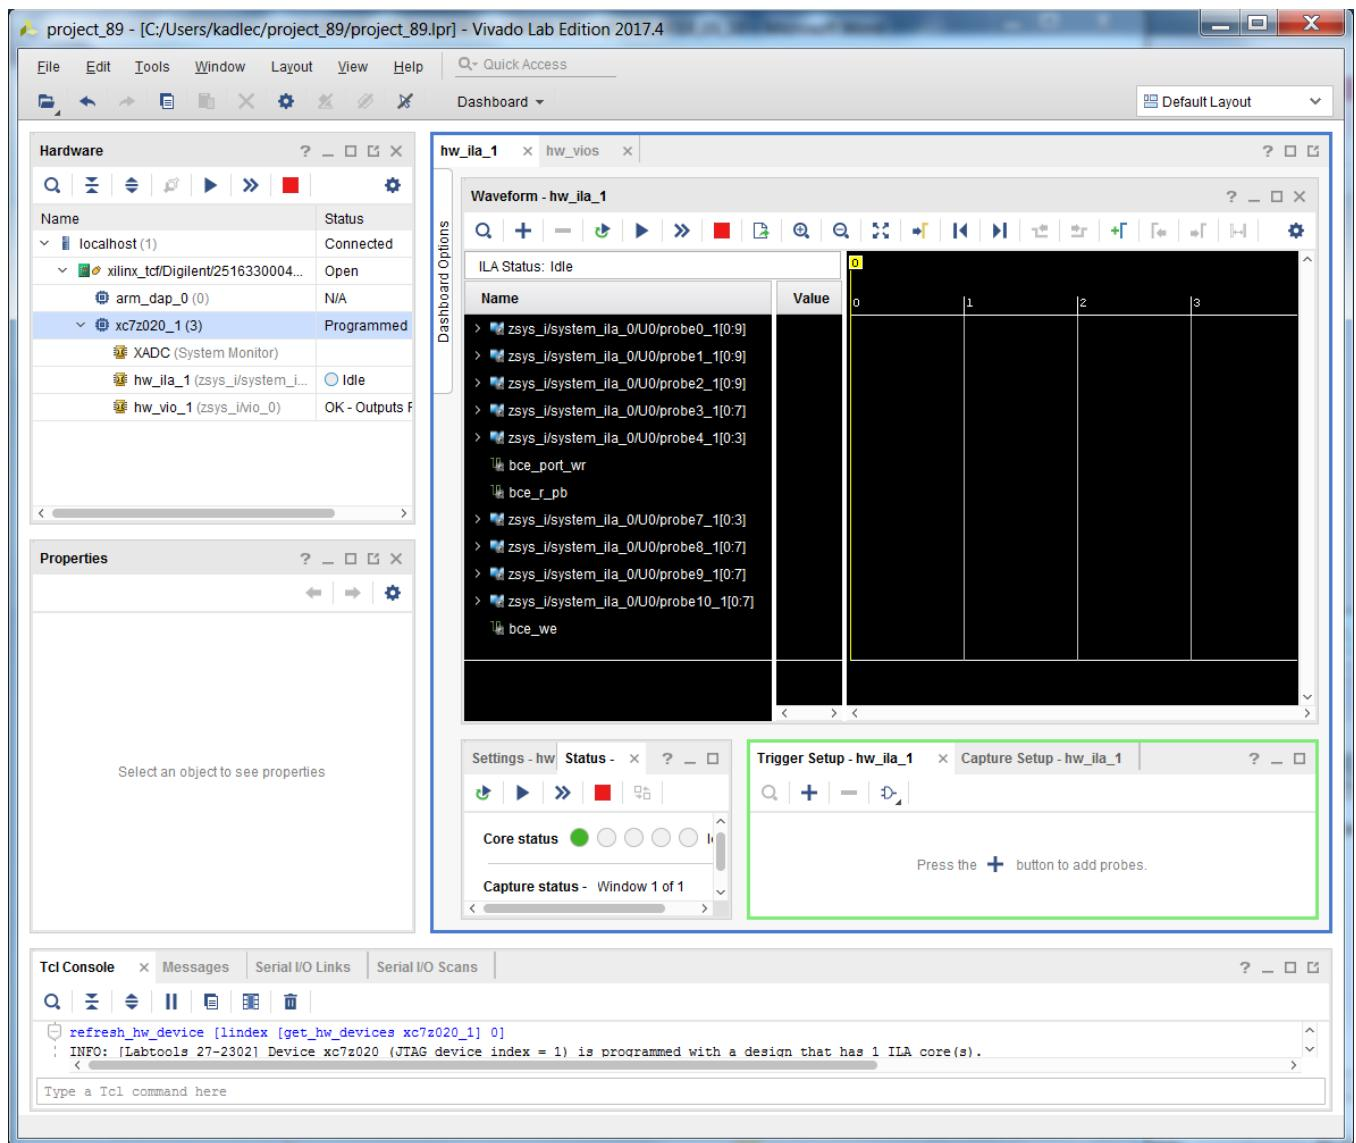
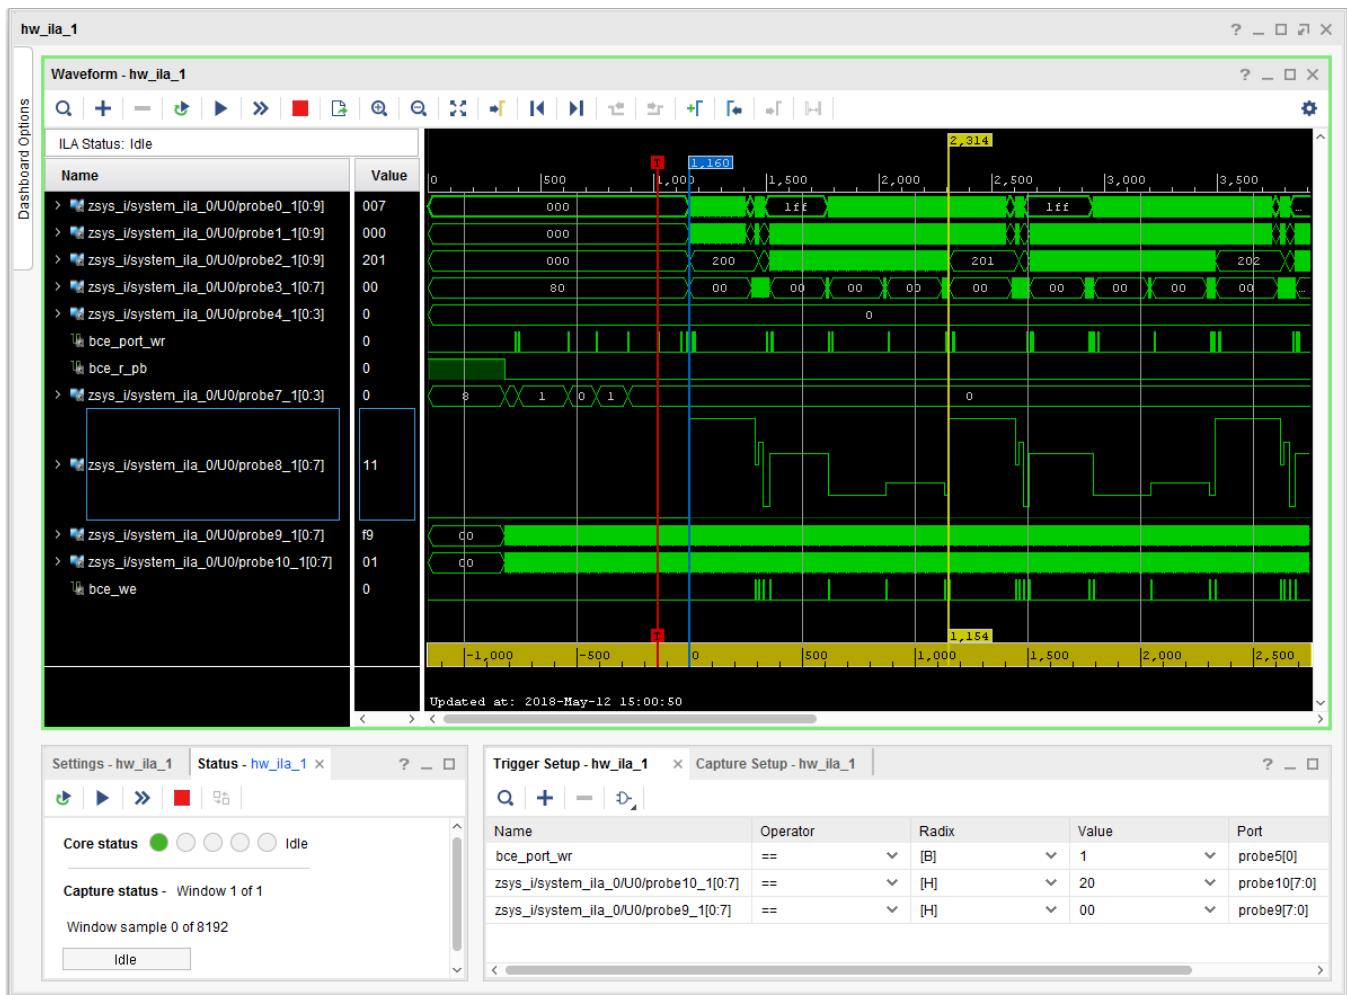
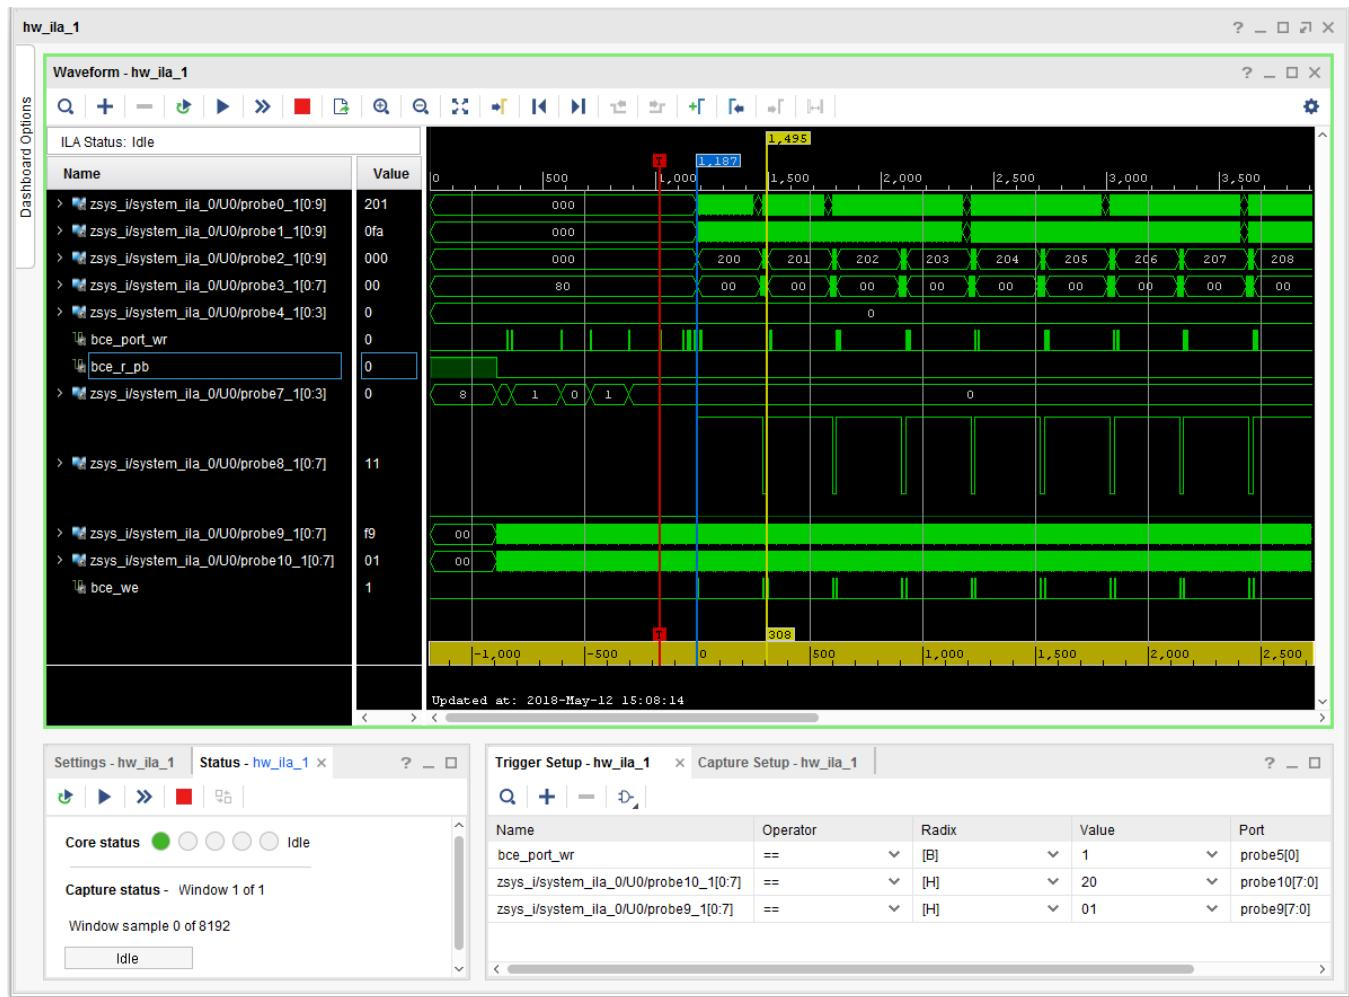

Figure 10: Release demo t01_s. Probes file is specified. Trigger conditions are set.
Figure 11: Release demo t01_s. Details of the 8xSIMD EdkDSP LMS filter computation.
Figure 12: Release demo t01_s. Details of the 8xSIMD EdkDSP FIR filter computation.
See *Figure 10*, *Figure 11*, *Figure 12*.
The Vivado Lab tool is connected to the chip. You have to specify the probes file (See *Figure 10*).
Names and parameters of probes are added to the ILA Waveform window. See *Figure 10*.
Data are captured and sent via jtag USB connection in Vivado Lab Edition 2017.4.1 for visualisation and analysis in the waveform window. This snapshot stores the detailed trace of the FIR filter computation. See *Figure 12*.
In Vivado Lab. Tool, in the ILA configuration page, change the trigger condition to (`probe9[0:7]==0x01`). This corresponds to the condition `bce_port[0:7]==0x01`. See connections in *Figure 3*. ILA will capture start of the FIR filter. See *Figure 12*. The PicoBlaze C code of the FIR example is listed in *Figure 19*.
The Vivado Lab. screens presented in *Figure 11* and *Figure 12* display also the 1024 samples before the trigger event. This mode is set in the trigger mode settings window. Screens display how the PicoBlaze6 controller reset signal `bce_r_pb` is deactivated. Picoblaze6 reads the 8 bit parameters `op` and `n` from the MicroBlaze before the trigger event. See complete program listing in *Figure 19* with these initial lines of the PicoBlaze6 SW:
- Open description of debug nets present in file, thus specifying the probes file. See *Figure 10*.
See *Figure 11*, *Figure 12*.